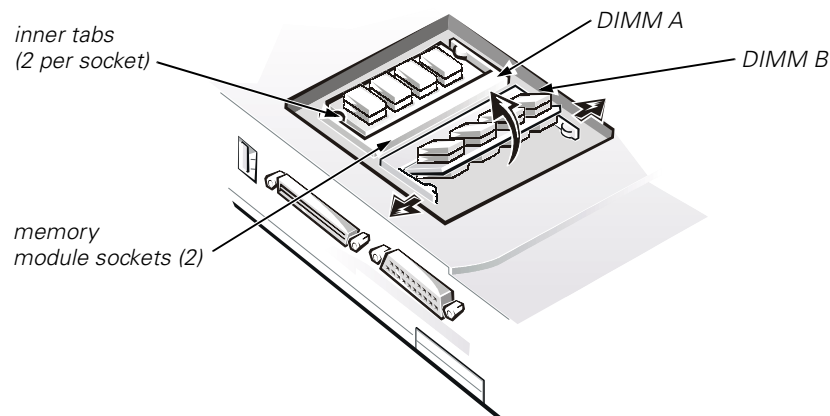

Figure 8. Memory Module Removal
2. To release a memory module from its socket, carefully spread apart the inner tabs of the memory module socket just far enough for the memory module to disengage from the socket (it should pop up slightly) (see Figure 8).